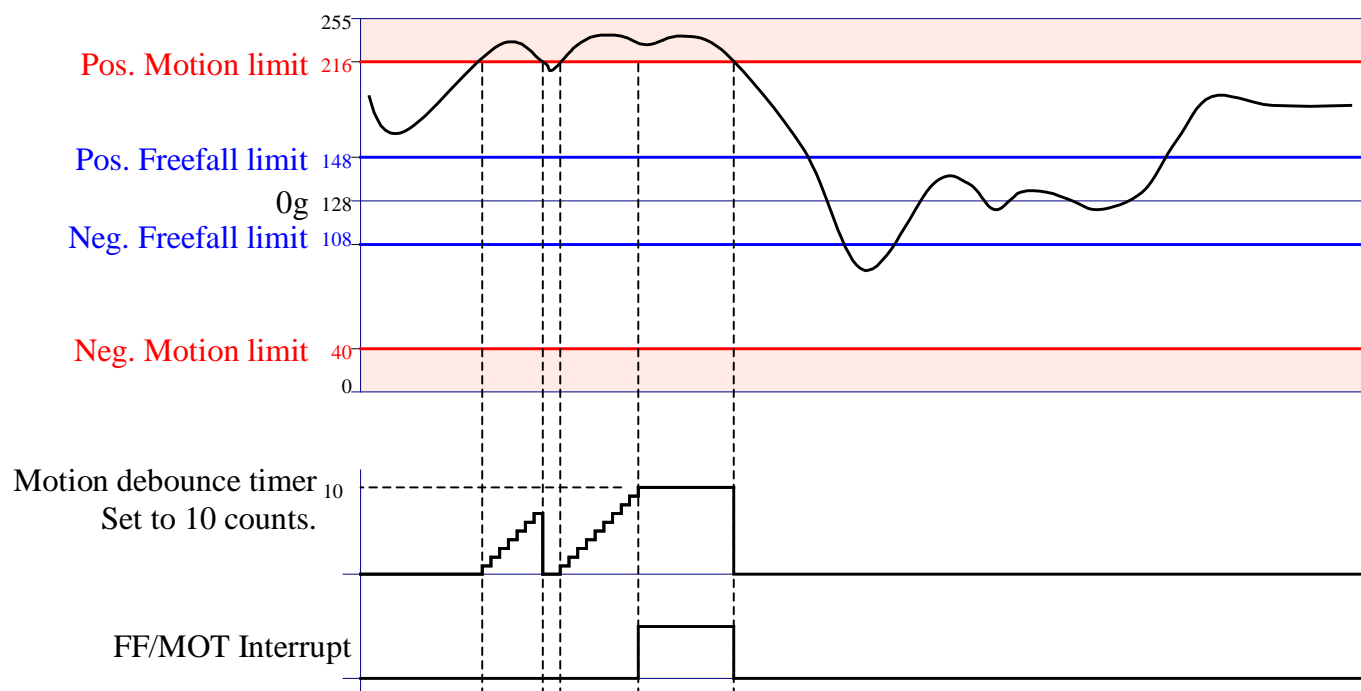

Figure 7. Typical Motion Interrupt Example (MOTLat = 0, MOTen = 1)
***MOTLat** switches the motion interrupt function between latching and non-latching as shown in Figures 7 and 8.*